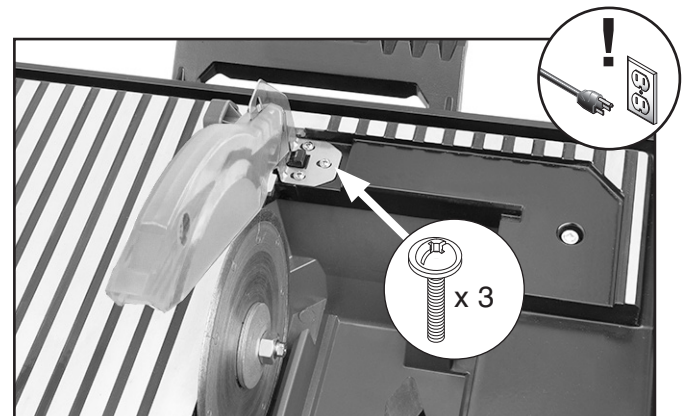

Figure 48. Splash hood mounting screw locations.
9. Loosen (3) screws shown in **Figure 48**.